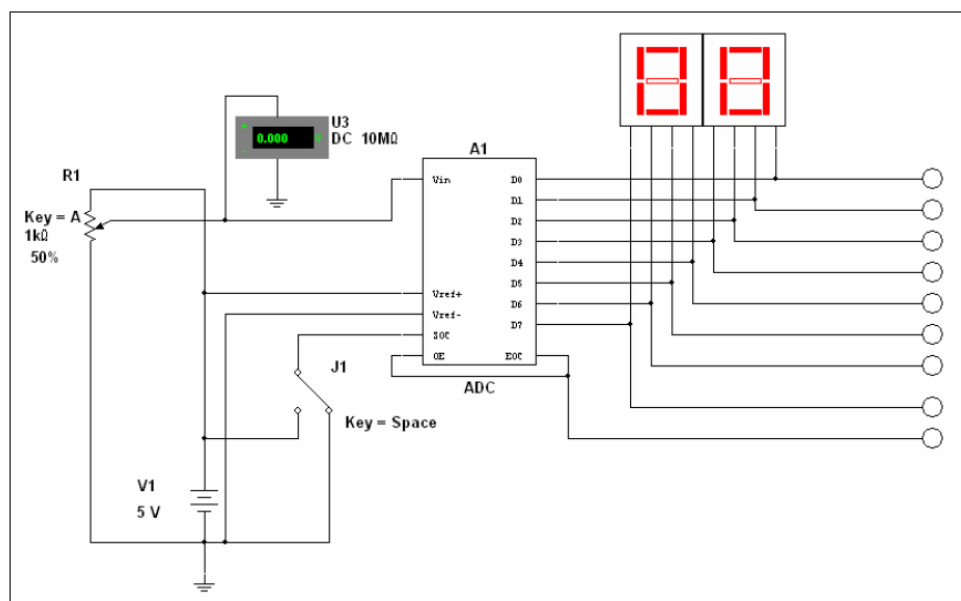

Fig.1 ADC
1. Connect the circuit components illustrated in Figure 1.